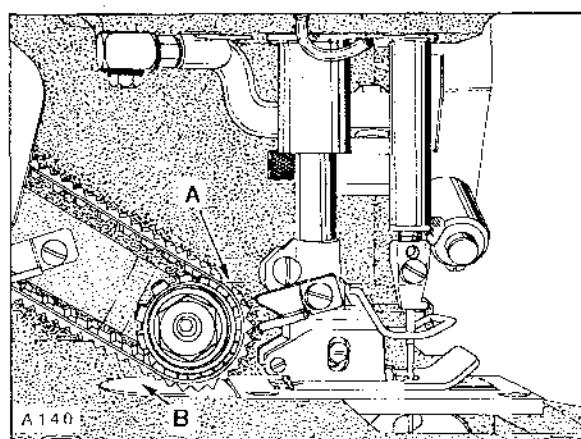

Fig. 37
Belt Puller (A, Fig. 37) must be setting evenly on cloth plate (B). On Style XF511E152MF Belt Puller will rest on "AIR-KLIIPP" inlet.